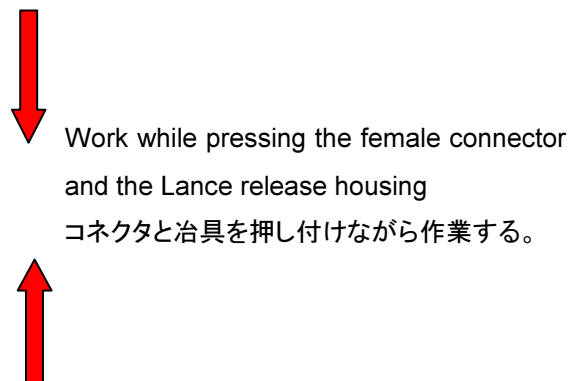

Fig.9
- (4) Extract contact of circuit number 35 by pulling the crimped wire. Circuit number refers to drawing (PN: 1376600). Work while pressing the female connector and the Lance release housing when you pull out the contact See Fig.9
端子を引く抜く際は、メスコネクタとランス解除ハウジングを押し付けながら作業して下さい。Fig.9 参照